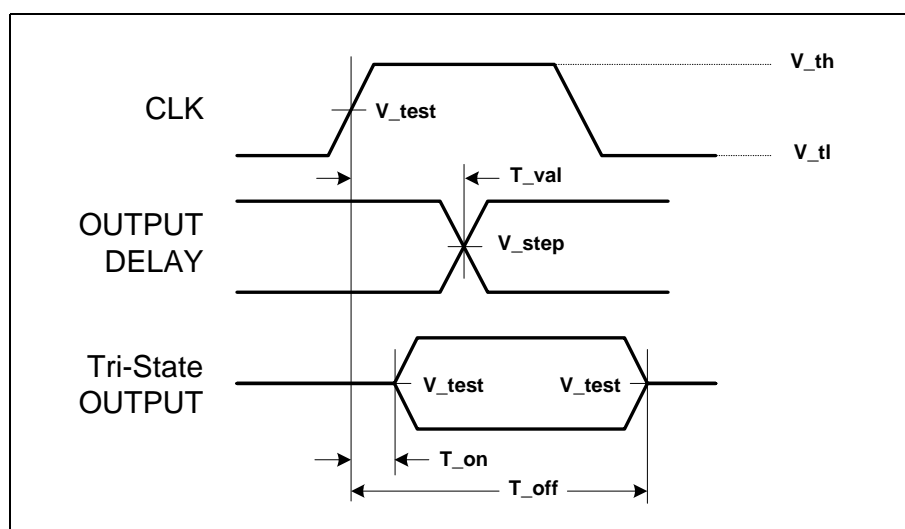
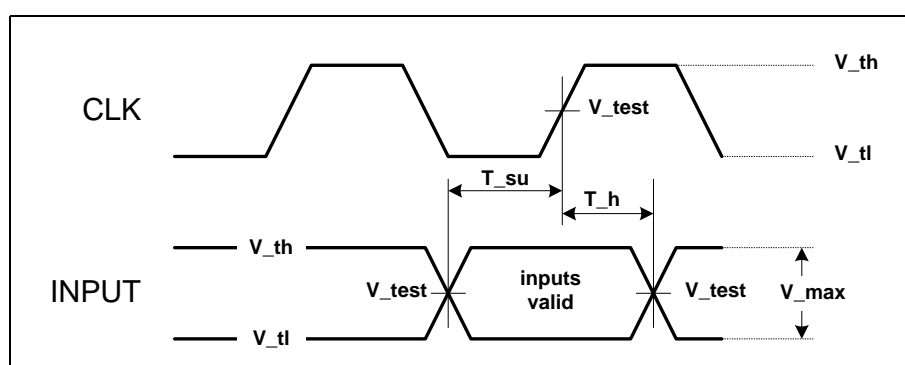

Figure 25. Output Timing Measurement Conditions
Figure 26. Input Timing Measurement Conditions
Figure 25, Figure 26, and Table 24 define the conditions under which timing measurements are done. The component test guarantees that all timings are met with minimum clock slew rate (slowest edge) and voltage swing. The design must guarantee that minimum timings are also met with maximum clock slew rate (fastest edge) and voltage swing. In addition, the design must guarantee proper input operation for input voltage swings and slew rates that exceed the specified test conditions.
1. Timing measurement conditions are illustrated in Figure 25.
4. Timing measurement conditions are illustrated in Figure 26.